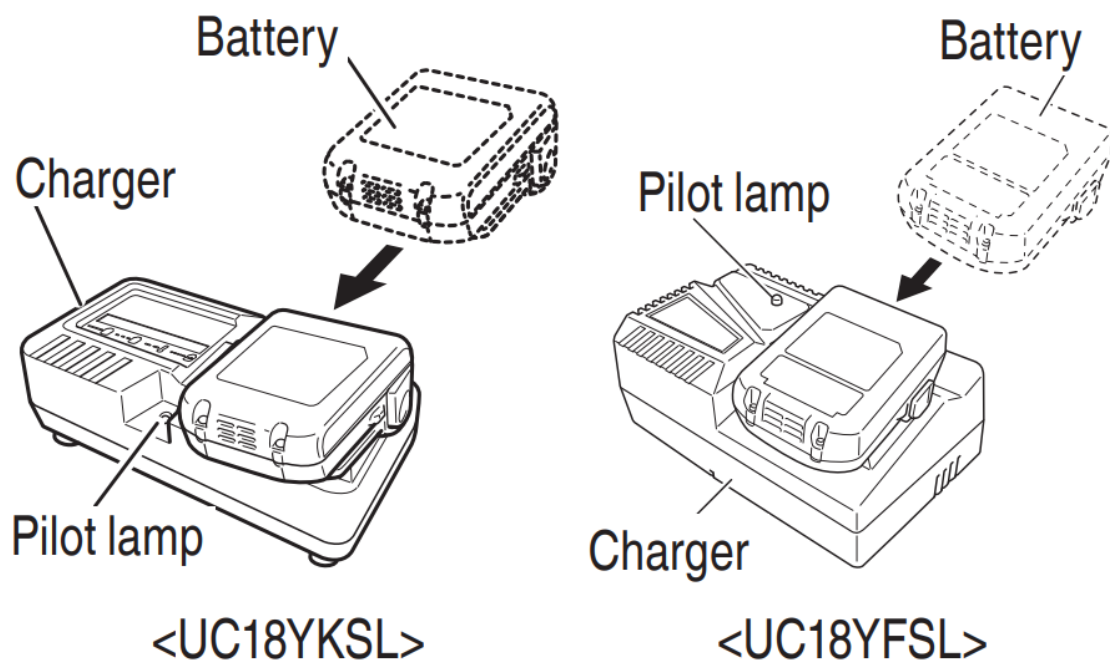

Fig. 6
2. Insert the battery to the battery charger. Insert the battery into the battery charger as shown in Fig. 6.